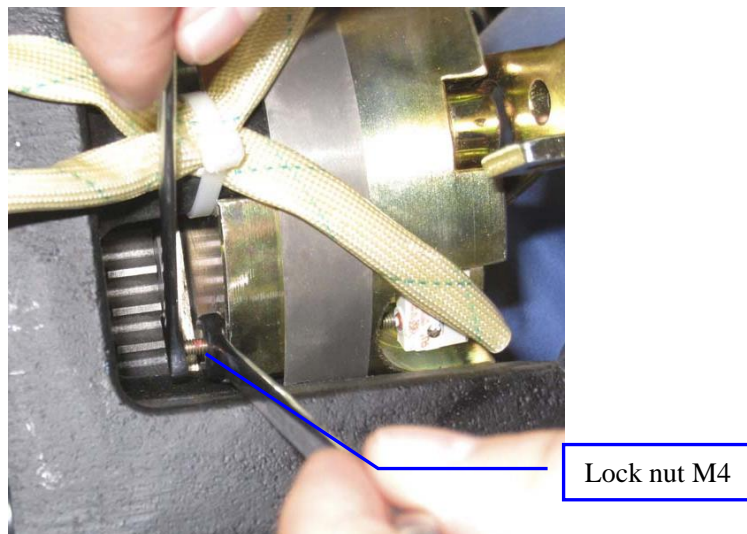

Figure 46: Tighten the Lock nut M4
5. Use open end wrench 7mm to hold the bolt M4x50, then use another open end wrench 7mm to tighten the lock nut M4. See Figure 46.